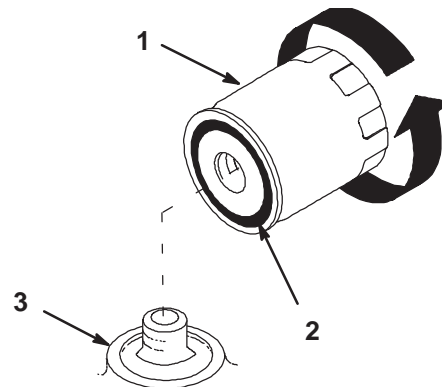

Figure 31
- Remove the old filter and wipe the filter adapter gasket surface (Fig. 31).
- Apply a thin coat of new oil to the rubber gasket on the replacement filter (Fig. 31).
- Turn the oil filter clockwise until the rubber gasket contacts the filter adapter (Fig. 31).
- Tighten the filter an additional 1/2 turn (Fig. 31).